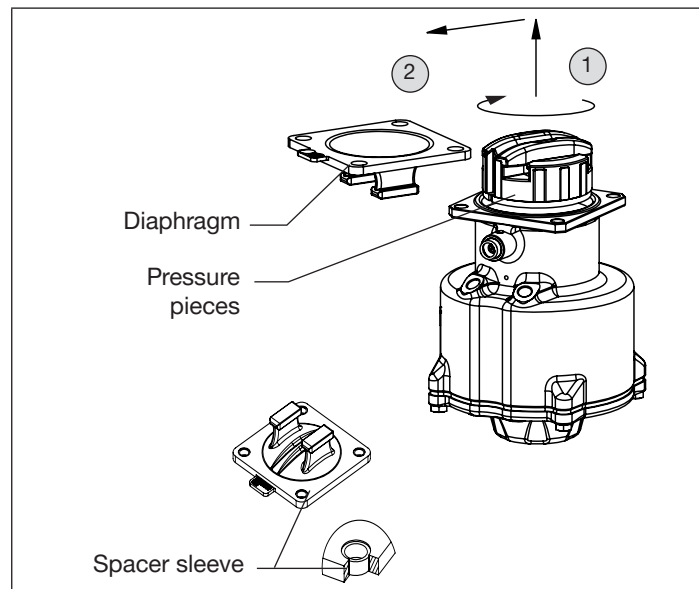

Fig. 19: Disassembly / assembly the diaphragm
- Insert the diaphragm into the guide of the pressure pieces. Make sure that the four spacing sleeves are installed (see "Fig. 19").